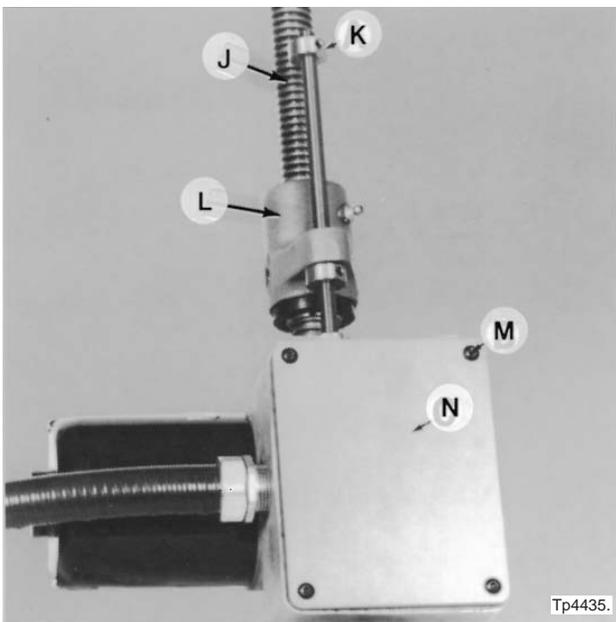
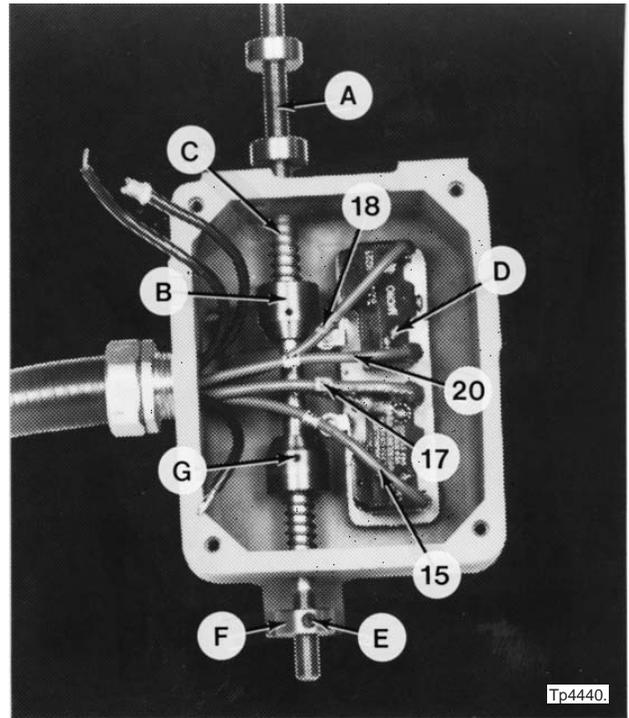

Figure 3.29 - Speed Change Mechanism
Figure 3.34 - Drive Switches and Cams
1. Loosen set screw and remove stop collar "K", Figure 3.29 .
12. Record the connections; then disconnect wires 15, 17, 18, and 20, Figure 3.34 .
5. Replace the limit switches and the green ground wire with four screws “D”, Figure 3.34 .
16. Replace cover “N” using four screws “M”, Figure 3.29 .
Do not tighten the lock screws in stop collars “K”, Figure 3.29, and “F”, Figure 3.34.
18. Start stop collars “K”, Figure 3.29, and “F”, Figure 3.34, onto the trip rod.